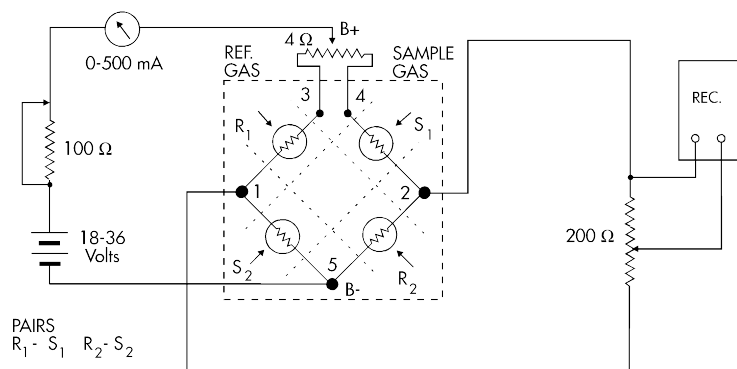
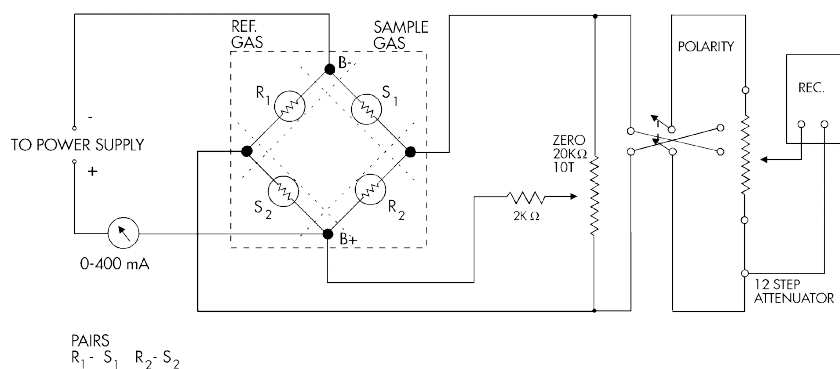

Figure 3
Figure 6
The electrical circuits used by various manufacturers vary but most incorporate the Wheatstone Bridge. Normally four filaments are used however some manufacturers use two-filament bridges and fixed resistors. This is more common when thermistors are the sensors. Figs. 3, 4 and 5 illustrate typical bridges with the zero adjustment between two elements in the conventional style. Fig. 6 shows the more modern approach, but note that it is still a “bridge” circuit.
4. Circuit in accordance with Figs. 3, 4, 5 or 6 should result in: